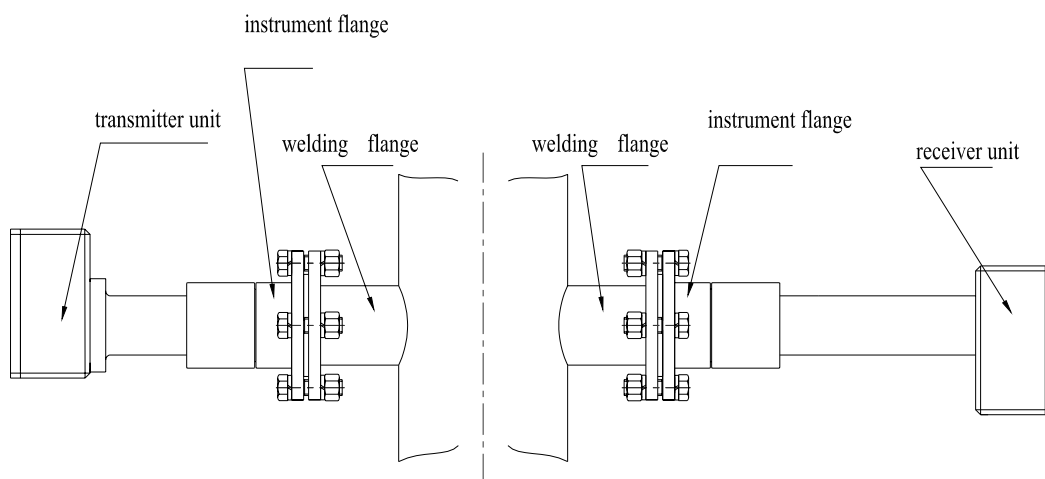

Figure 6.2 Removing the Transmitter Receiver Units
2. Loosen the mounting nut and take off the transmitter unit and the receiver unit (Figure 6.2). Check the optical parts for cracks, dust or other contaminants. If damage or contamination is evident refer to section 6.1.2 to clean and maintain the optical parts.